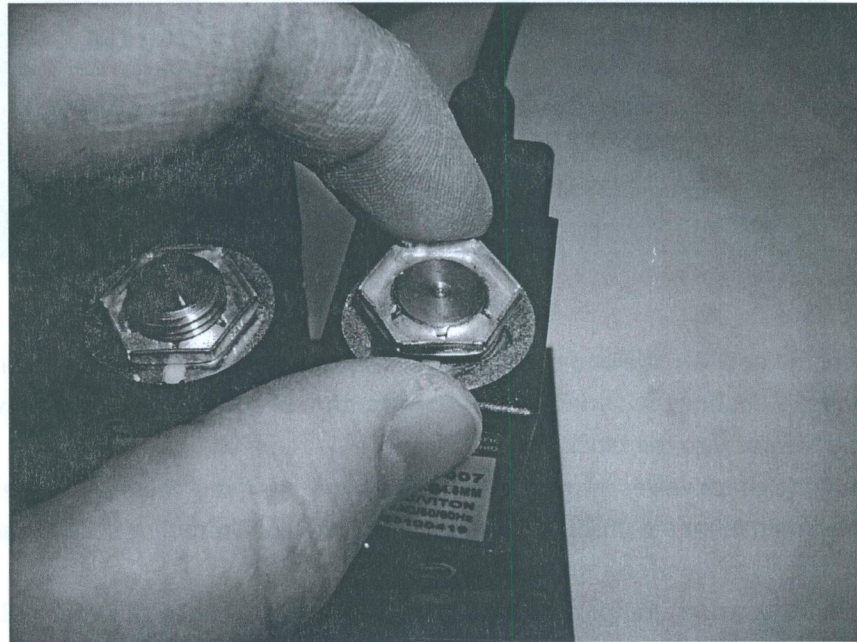

Fig 21
- Remove the large nut on top of the alcohol and detergent valves. Before removing the coil, make note of the position of the coil. Remove the coil by pulling up. Refer to Figure 21. Older DSD-201's will have a spacer washer located between the coil and valve body. Retain this spacer for reassembly.